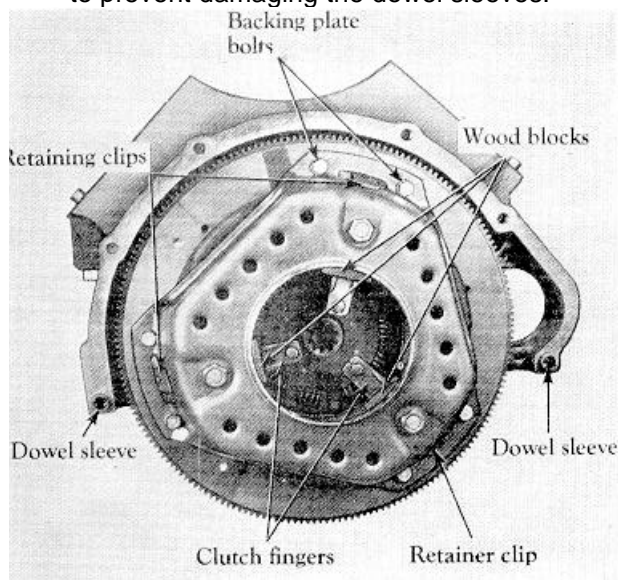

Fig. 36 Clutch Removal
- a. On clutch assembly shown in Fig. 36 the clutch plate should be compressed with three retaining clips between the backing plate and pressure plate lug or wood blocks (1/4" x 1" x 3") positioned between the clutch fingers and back plate. Then loosen the back plate-to-flywheel retaining bolts only enough to wedge the clips or wood blocks in place. Turn the flywheel one-third turn and install the second clip or block in the same manner. Follow the same procedure for the third retaining clip or block. Use of these clips or blocks eliminates the possibility of distorting the clutch cover. Remove all retaining bolts and lift the clutch assembly from the flywheel.